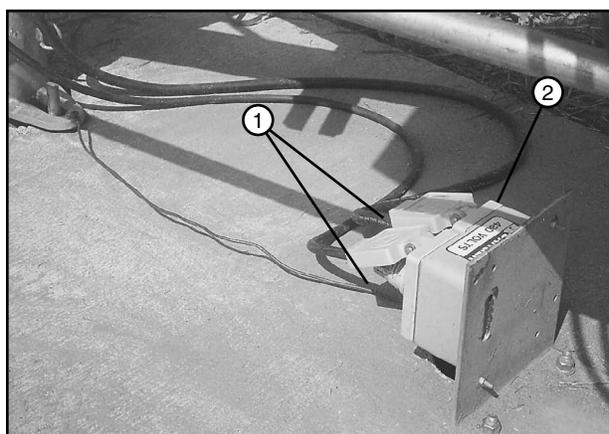

Figure 52-3 1. Power and Pump Control Plugs
25. With the disconnect in the OFF position, plug the power and pump control plugs into the receptacles. See Figure 52-3.